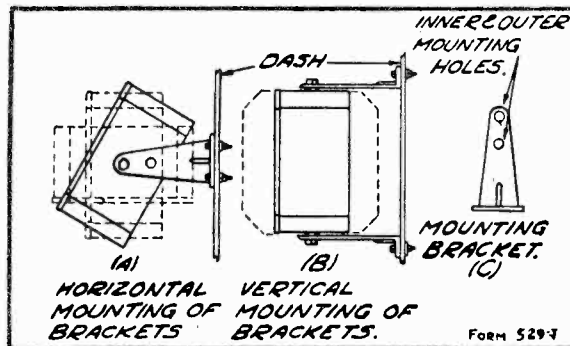

Fig. 5—Method of Mounting Speaker
The speaker-"B" eliminator is mounted on the back of the dash by means of two brackets, as shown in Fig. 5. Usually the space available will govern the location of the speaker and position of it on the mounting brackets. However, the matter of acoustics should be given careful consideration. One of the most desirable positions from the standpoint of
After the position of the speaker is decided on, drill the four $\frac{5}{16}$ " holes required for the bracket mounting bolts. A template for these holes is supplied with the receiver. The holes are arranged in a rectangle. The centers of the holes, the small dimension are $2\frac{3}{8}$ " apart and the long dimension 10" apart. In Fig. 5 is shown how the brackets can be mounted horizontally (A) or vertically (B), and the different positions in which the speaker itself can be placed. There are two holes in each bracket as shown in Fig. 5 (C) which determine the distance of the speaker box from the dash. The grilled portion of the box at the front should face the listener.
acoustics is that shown by the solid lines in Fig. 5 (A). In this position the sound waves travel in the most direct lines toward the listener. After the